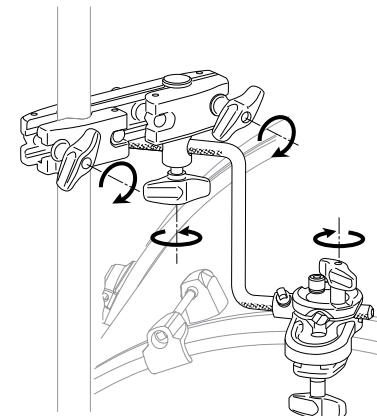

Fig. 4 / 図4
5. Fine adjust the Z-Rod, Post, and Adaptor to set the Hi-Hat in the ideal playing position. Securely tighten all Wing Bolts/Wing Nuts (Fig. 4).
しっかりと締めて固定してください (図 4)。